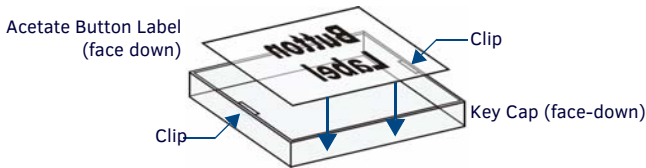

FIG. 4 PLACING A BUTTON LABEL INSIDE A KEY CAP
2. Place the Key Cap face-down, and insert the Button Label into the bottom of the Key Cap (FIG. 4).
- Orient the Button Label inside the Key Cap so that the two clips are located on the left and right sides of the readable text on the Button Label, as indicated in FIG. 4.
- Be sure to place the Button Label face-down inside the Key Cap (see FIG. 4), otherwise the label will be seen in reverse once the Key Cap is installed.